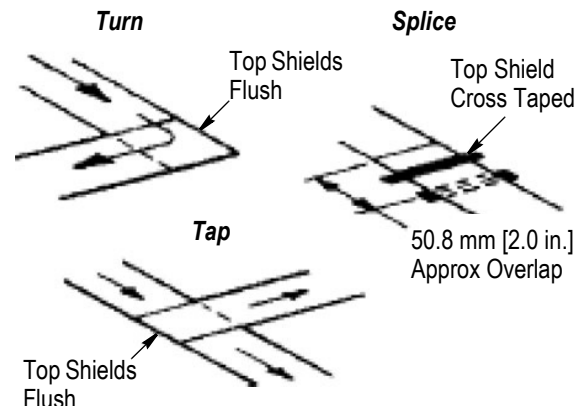

Figure 5
2. Lay the taps, splices, and turns as required. For taps and turns, trim the two top shields flush with each other. Overlap the edges by approximately 50.8 mm [2.0 in.], then tape the overlapping edges to prevent creeping. Continue laying the top shield to the end of the cable run. Refer to Figure 5.